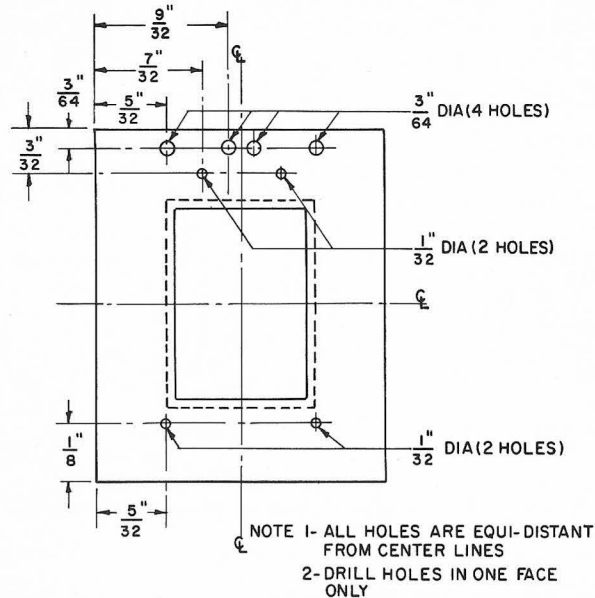

Figure A5.3 Transformer bobbin drilling dimensions
1. Drill the bobbin on *one face only*, using the dimensioned sketch (Figure A5.3) as a reference.